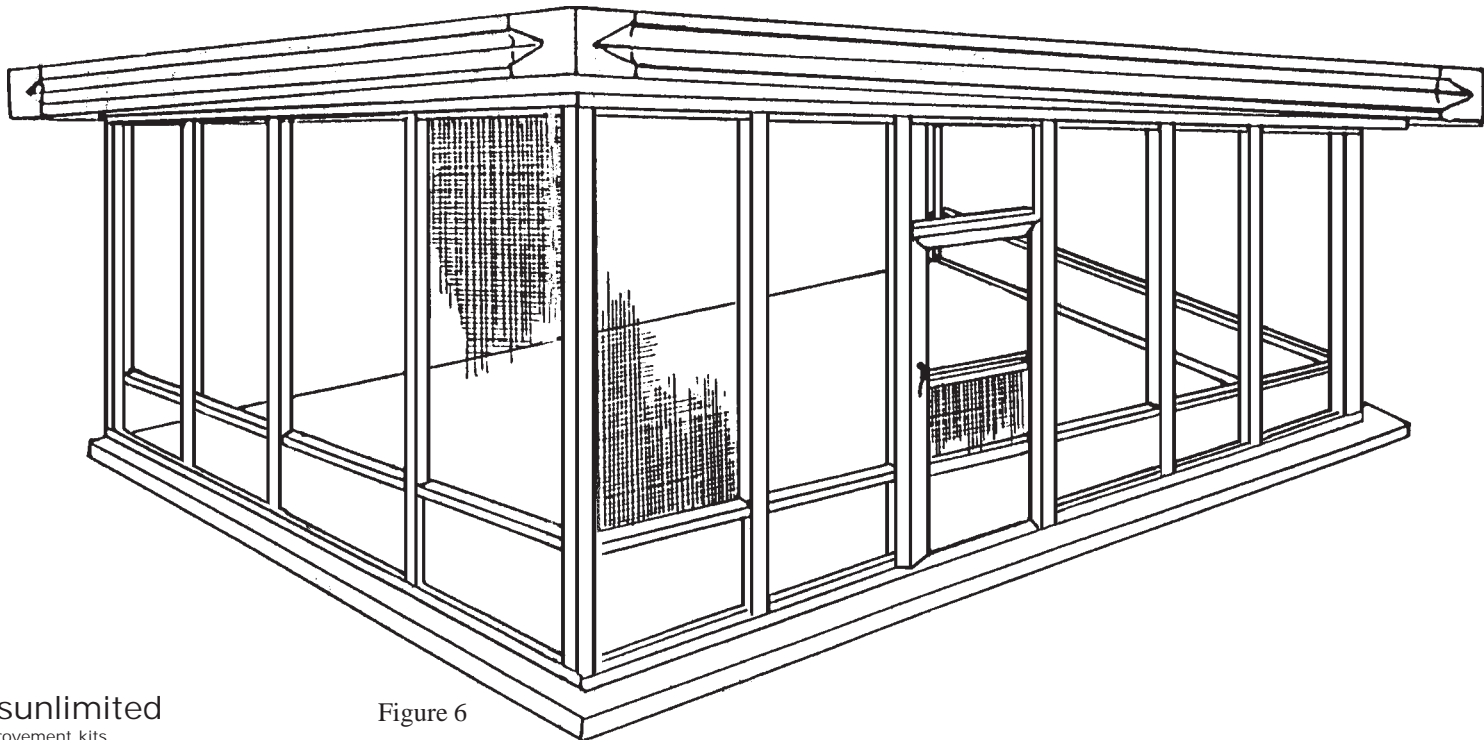

Figure 6
**Step 6: INSTALL SCREENING (Figure 6)**
**Step 7: INSTALL SCREEN DOOR IN OPENING (Figure 6)**